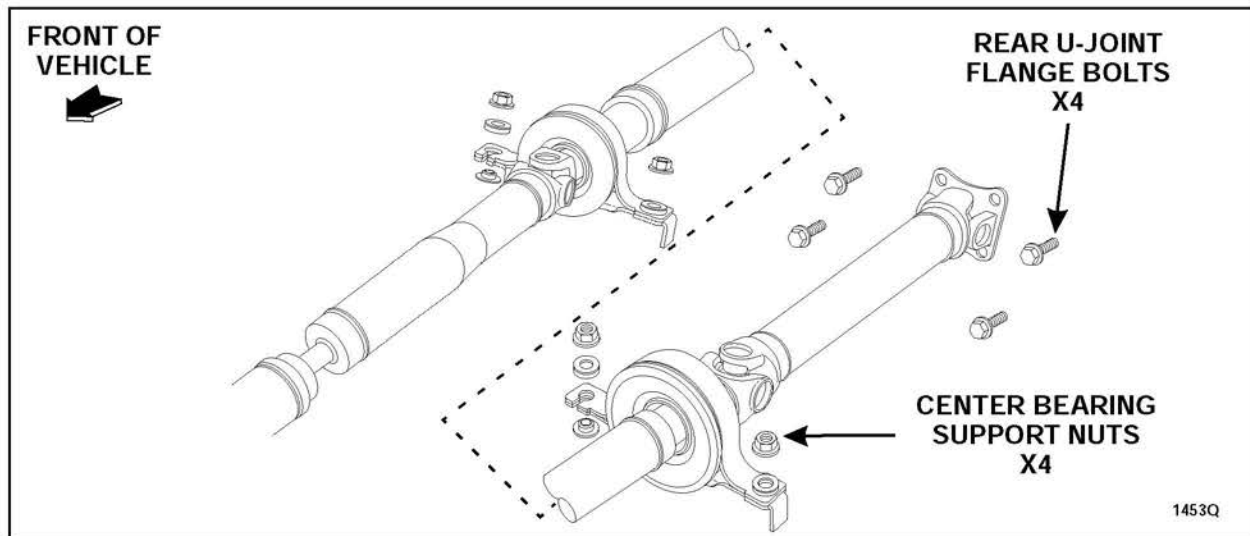

FIGURE 3
See Figure 3.
9. Position the driveshaft and install the two (2) or four (4) *new* center bearing support nuts. See Figure 3.
10. Position the driveshaft and install the four (4) *new* rear u-joint flange bolts. See Figure 3.